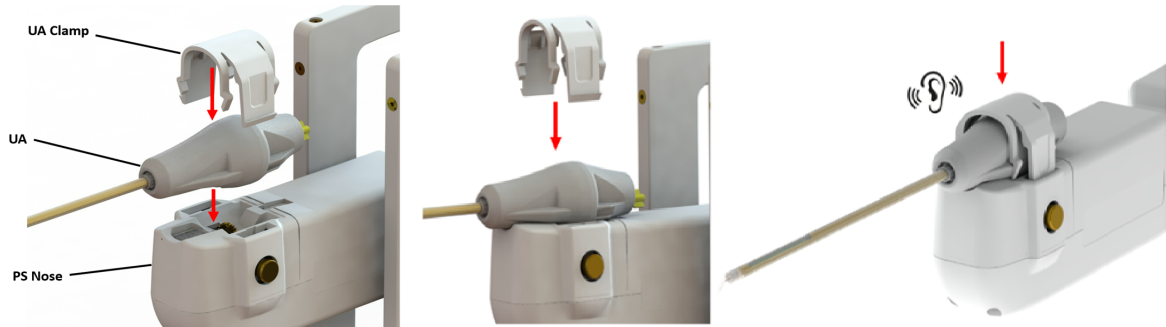

Figure 27: UA attachment to Positioning System
4. **MRI Technologist:** After locking the PS tilt and height, seat the UA in the PS nose and then secure it by pressing the UA clamp down over top of the UA until it is fully engaged with the PS nose. (*Figure 27*).